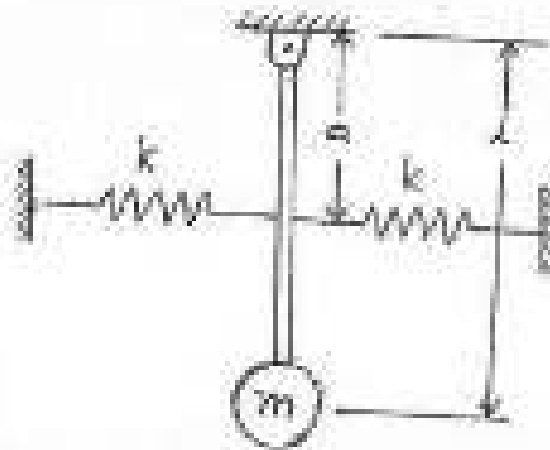

Fig. 5b
- b) A pendulum consists of a stiff weightless rod of length  $l$  carrying a mass  $m$  on its end as shown in Fig. 5b. Two springs each of stiffness  $k$  are attached to the rod at a distance  $a$  from the upper end. Determine the natural frequency for the small oscillations.